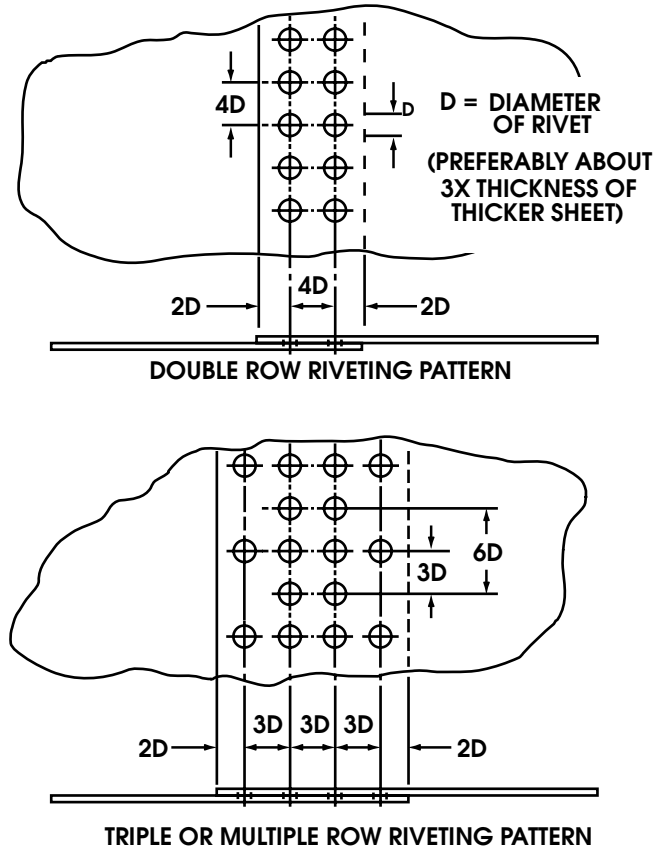

Figure 10-1: Riveting Patterns
1. Rivet patterns are denoted by rivet spacing and rivet edge distance. Rivet edge distance is the distance from center of rivet to nearest edge of sheet. Rivet spacing is defined as the distance from center of rivet to center of adjacent rivet (Figure 10-1).